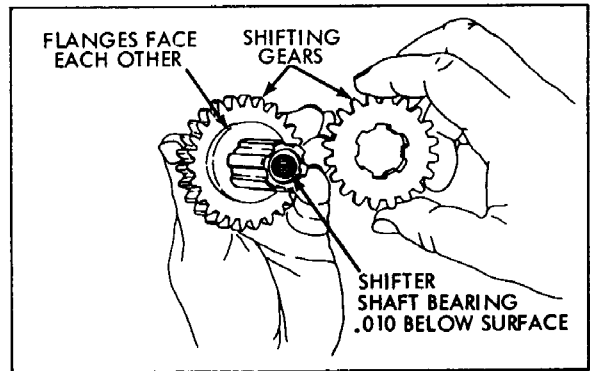

Figure 3-6
- b. Assemble the two flanged gears onto the shifter shaft. (Figure 3-6) Note that the large gear is placed on the shaft first with the flange side toward the needle bearing in the end of the shifter shaft. Slide on the smaller gear with the flange toward that of the larger gear. (Figure 3-6, 3-7)